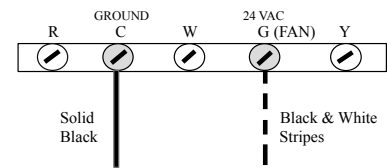

Fig. 1
- Connect the wire with black & white stripes to terminal G / FAN (Fig.1) to ensure that the air cleaner is not energized in the absence of air flow. Use a Voltmeter to confirm 24 volt (not 110 volt) on unmarked terminals.